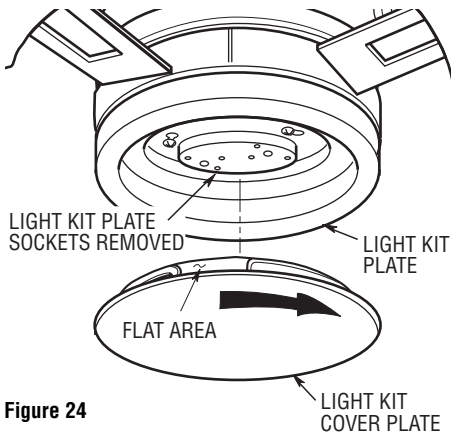

Figure 24
- 4. Carefully tuck blue and white wires from motor up into the fan motor/housing assembly (Figure 24).
- 5. Place the cover plate onto the fan motor/housing aligning the three flat areas on the top flange of the cover plate with the three pins on the inside of the fan motor/housing (Figure 24). Then turn the cover plate clockwise until it stops turning.